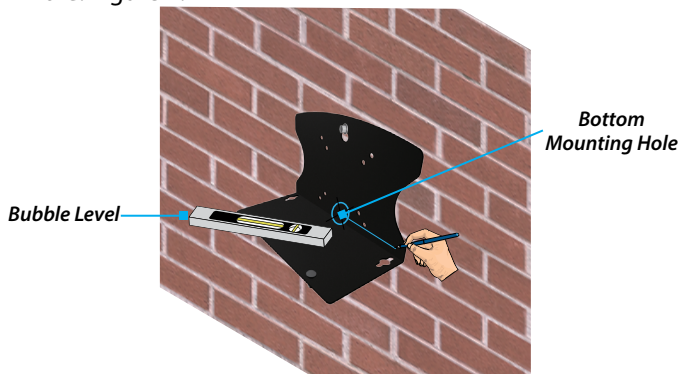

Figure 7
6. Use the **Bubble Level** to ensure the base of the **Wall Mount Bracket** is **Horizontal**. Figure 7.
7. Use a **Pencil** to mark the **Center** of the **Bottom Mounting Hole**. Figure 7.